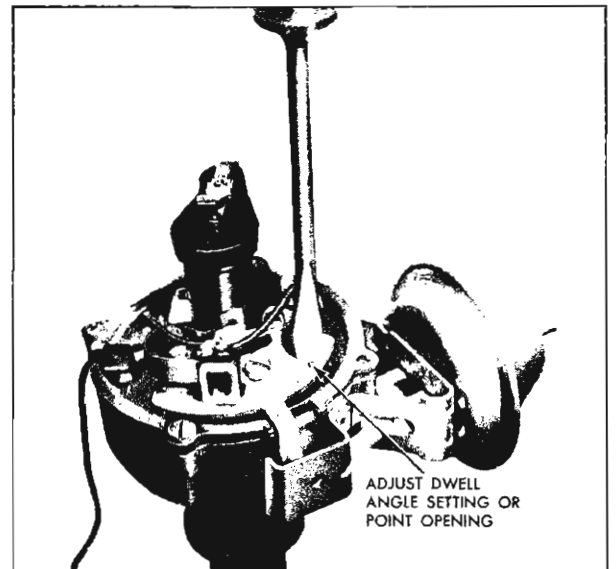

Fig. 47—Setting Point Opening
9. Set point opening (.019" for new points) (fig. 47).
4. Disconnect vacuum line from vacuum control assembly, remove distributor hold-down bolt and clamp, remove distributor from engine. Note position of vacuum advance assembly relative to engine for correct reinstallation (fig. 47).